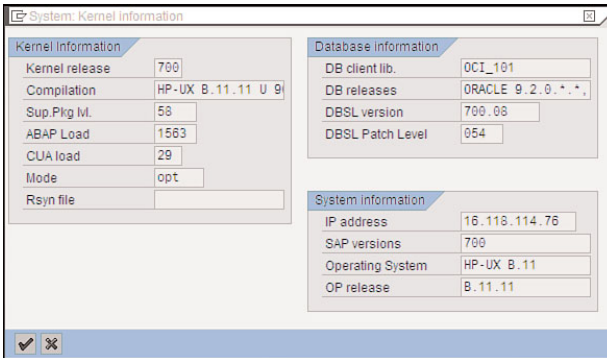

FIGURE 25.9 The System Kernel Information screen lets you verify that the kernel patch installed correctly.
8. Click the Other Kernel Info button or press Shift+F5. Verify that the kernel has been upgraded in the System Kernel Information screen, as shown in Figure 25.9.